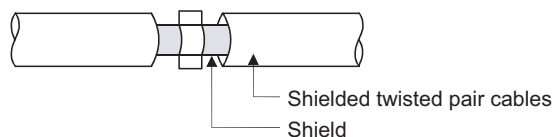

Figure 9.6 Shielded twisted pair cable grounding
- For the shielded twisted pair cable, remove a part of the jacket as shown in Figure 9.6 and ground the exposed shield section to the ground as much as possible.